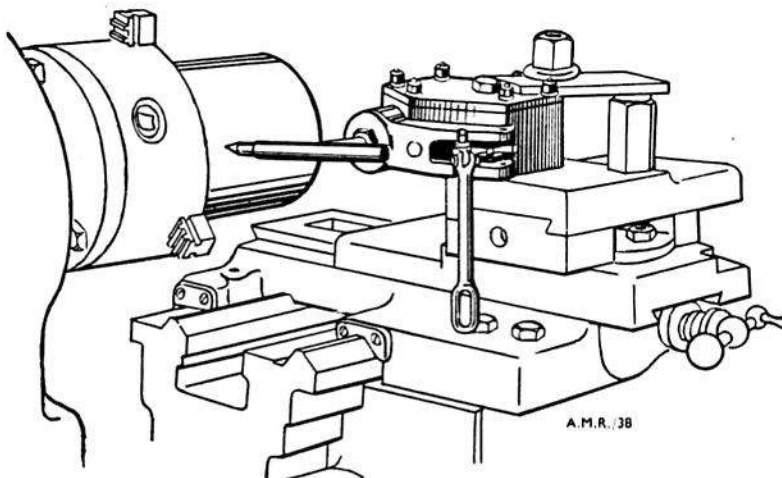

Fig. 7. Method of setting up lathe
- (c) Set up the drogue gun in the lathe tool rest and screw the pencil holder in place of the cocking tool as shown in fig. 7.